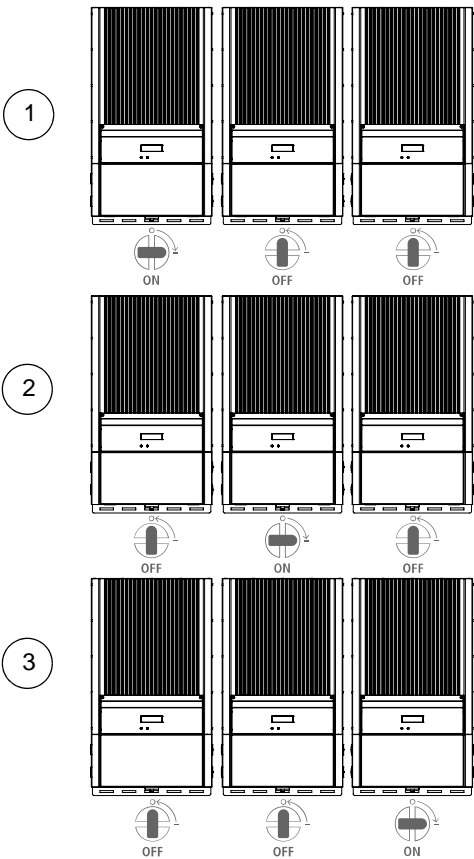

Figure 4-2 Commissioning Sequence for Multiple Inverters
5. Proceed to the next inverter and perform the same test. See Figure 4-2 for an example of the recommended commissioning sequence.